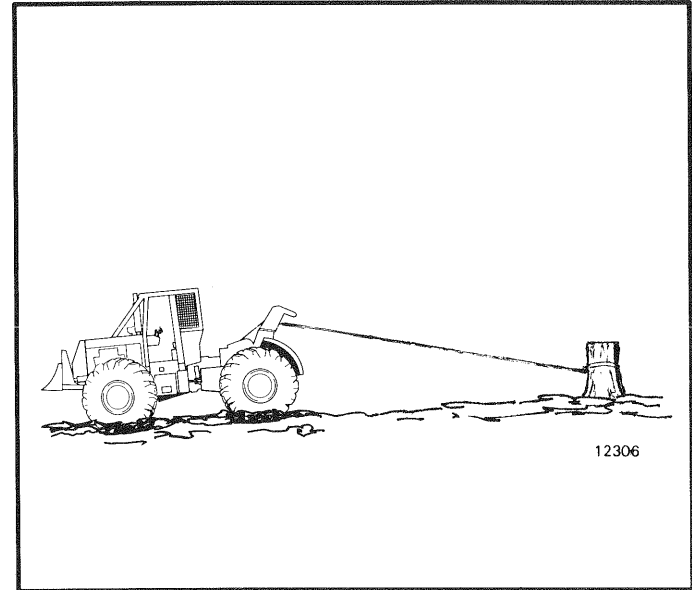

FIGURE 7. MOVE A DISABLED VEHICLE (STEP A)
A. A skidder or tractor often travels in areas where traction conditions are bad. A skidder or tractor equipped with a winch can be used to remove itself from mud or other area where it can not move using only the drive wheels or tracks. See FIGURE 7. Use the following procedure: